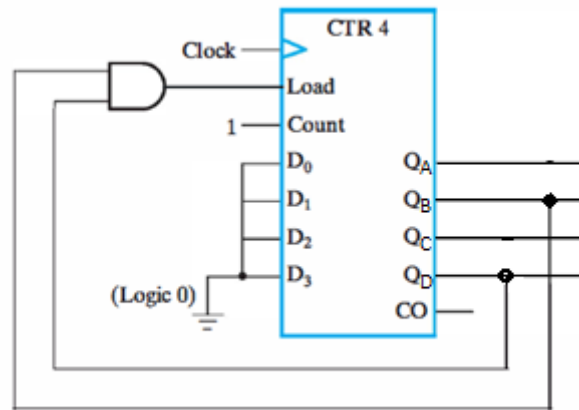

Figure 10.2: BCD counter using 4-bit binary counter
- Build the circuit of Figure 10.2 using the counter IC and NAND gate IC (in place of AND as shown in figure) on breadboard. [4]